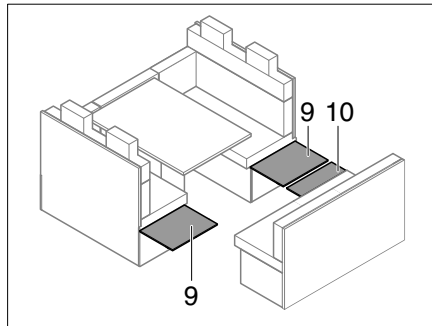

Fig. 230 Fold out the side walls
- Fold out the seat box side walls (Fig. 230,9) and seat box front wall (Fig. 230,10) of the longitudinal bench.